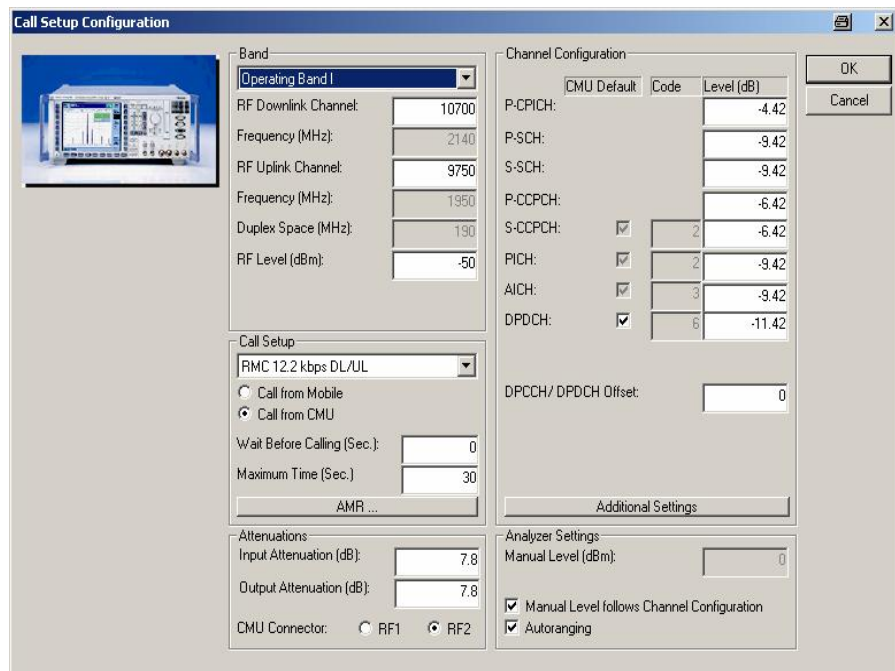

Fig. 6.4_3: Call Setup configuration
- 5) Enter the path loss you measured between UE and CMU200 as *Input Attenuation* and *Output Attenuation* (lower left in Fig. 6.4_3)